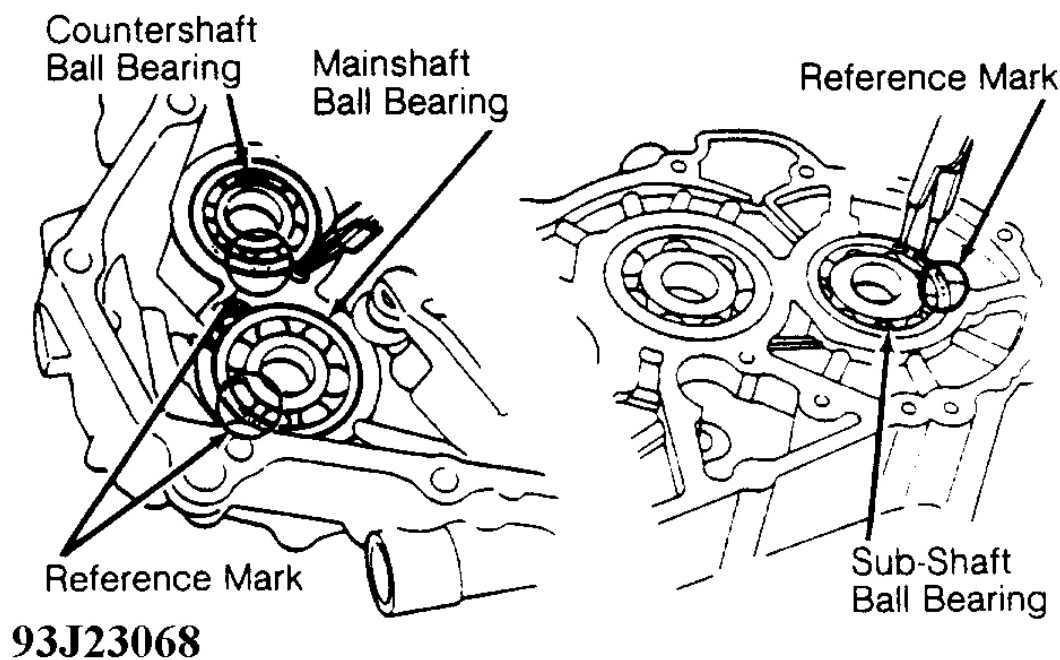

Fig. 31: Countershaft, Mainshaft Ball Bearing Reference Marks
2. If installing mainshaft, countershaft or sub-shaft ball bearings in transaxle housing, expand snap ring. Install ball bearing part way into transaxle housing so reference mark is properly positioned. See **Fig. 31** .
bearing is installed with reference mark properly positioned. See Fig. 31 .